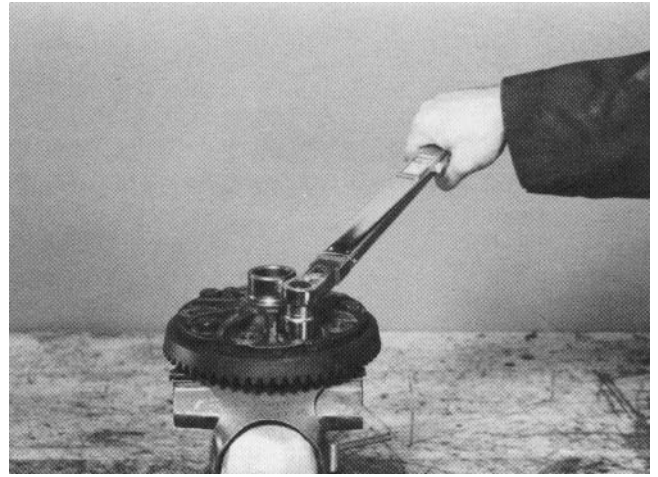

Figure 37
16. Put the ring gear onto the differential case and start the new capscrews into the gear with your fingers. Tighten the screws, alternating back and forth across the gear to allow the gear to be pulled evenly into place. Tighten the cap screws to a torque of 45-65 ft-lbs. (61-88 Nm) (Fig. 37).